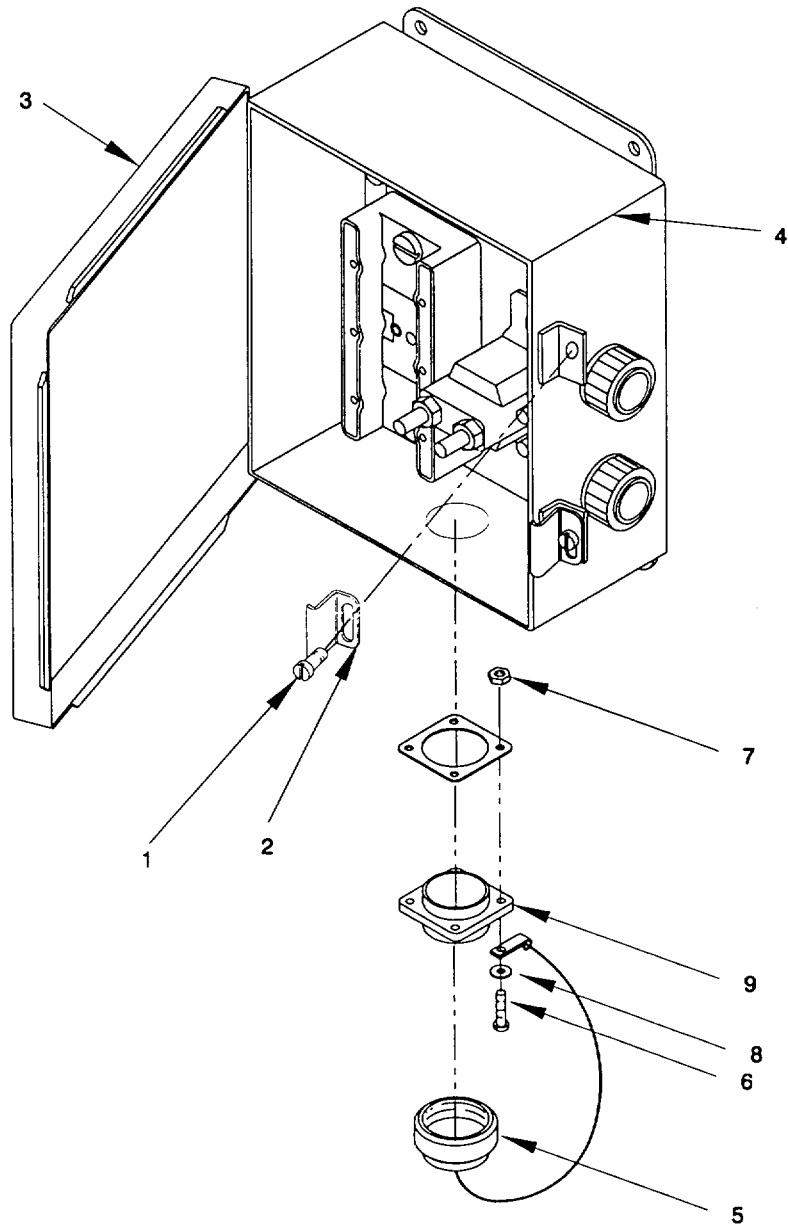

Figure 2-72. Receptacle, Vent Fan Relay Enclosure. Remove/Install
a. *Inspect.* (figure 2-72)
b. *Remove.* (figure 2-72)
(1) Remove three screws (1) and three clamps (2) securing cover (3) to enclosure (4). Swing cover (3) open.
(2) Disconnect and tag electrical wiring to the receptacle (9).
(3) Unscrew cap (5) and remove.
(4) Remove nuts (6), capscrews (7) and collect washers (8) to free receptacle (9).
c. *Install.* (figure 2-72)
(1) Apply sealing compound to screws (1 and 6).
(2) Position receptacle (9) on enclosure (4) and secure with four screws (6), four washers (8) and four nuts (7).
(3) Reconnect electrical wiring, as tagged, to receptacle (9). Refer to Appendix G.
(4) Close cover (3) and secure with three clamps (2) and three screws (1).